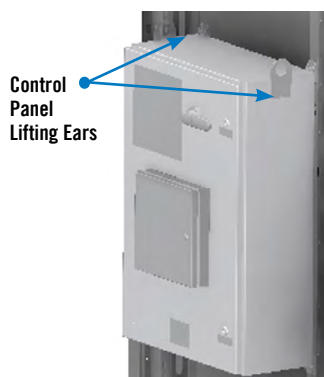

Figure 8. iPilot® Control System Panel
1. After the module is fully assembled, attach the bracket and mounting channel for the control panel. Measure the control panel width before installing the mount channel to match the mounting location. Also check the control panel location on Face A or B. Refer to your submittal drawing (see Figures 8, 9a, and 9b).